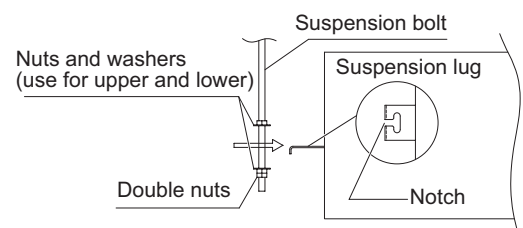

Fig. 2-101
- (3) Thread the 3 hexagonal nuts and 2 washers (field supply) onto each of the 4 suspension bolts as shown in Fig. 2-101 and 2-102. Use 1 nut and 1 washer for the upper part, and 2 nuts and 1 washer for the lower part, so that the unit will not fall off the suspension lugs.